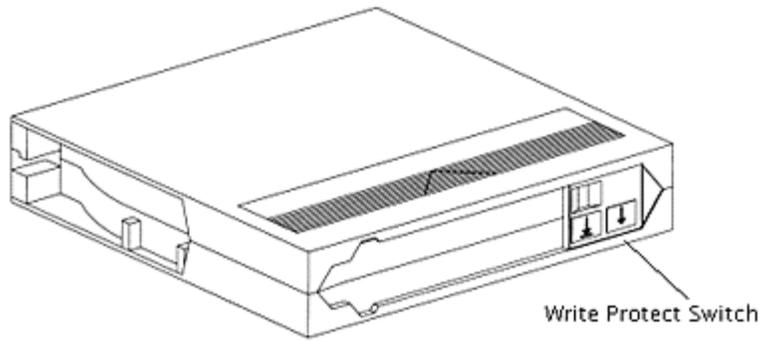

Figure 5: Location of Write Protect Switch
8. Finally, check for proper operation of the tape cartridge's Write Protect Switch (Figure 5). This sliding switch, located on the end of the tape cartridge used for the tape label, should snap smartly back and forth, and the orange tab should be visible when the tape cartridge is set to provide Write Protection (data on the tape cannot be written over).